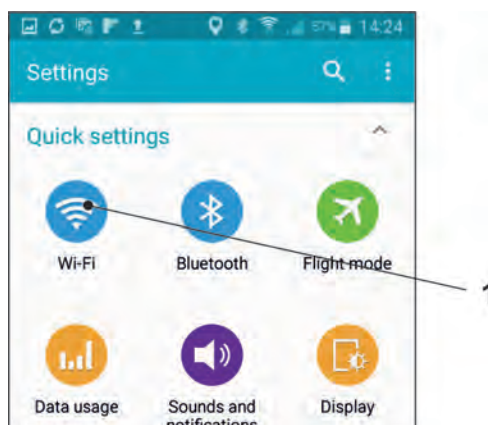

Fig. 30-3 WLAN symbol
3. Select WLAN (Fig. 30-3 Pos. 1).